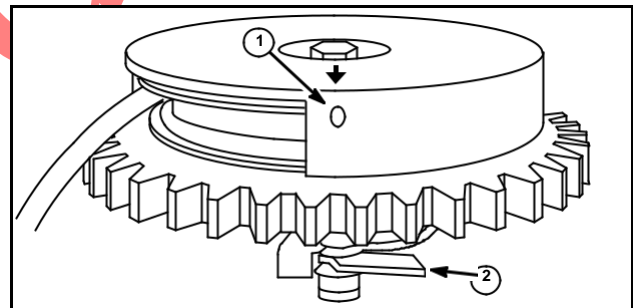
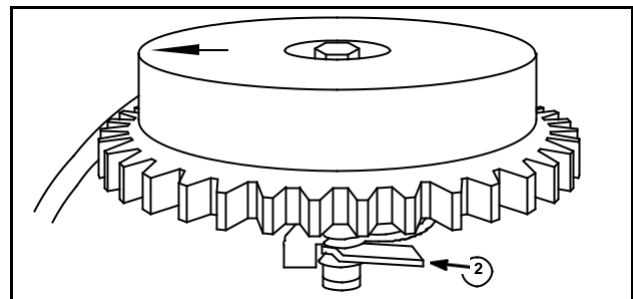

Fig. 31
Fig. 32
13. Locate Cover (Starter Handle on Top): Turn cover clockwise until "O" or "Arrow" on cover (1) is in line with starter shaft cam (2), Fig. 31. Locate Cover (Starter Handle and Rope Come Out Rope Guide on Cylinder Head): Turn cover clock-wise until "O" or "Arrow" is 90° from cam on starter shaft, Fig. 32.